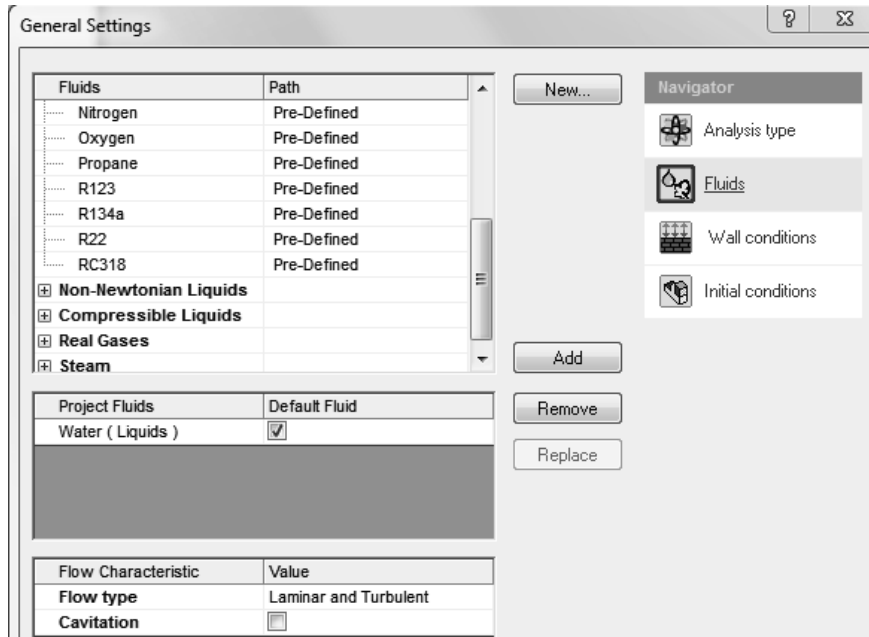

Figure 2.27d) Selection of fluid and flow type
29. In the next step, we will clone the project. Select **Tools>>Flow Simulation>>Project>>Clone Project...** Enter the Project Name “**Flat Plate Boundary Layer Study Using Water**”. Select **Create New Configuration** and exit the **Clone Project** window. Next, change the fluid to water in order to get higher Reynolds numbers. Start by selecting **Tools>>Flow Simulation>>General Settings...** from the SOLIDWORKS menu. Click on **Fluids** in the **Navigator** portion, select **Air** and click on the **Remove** button. Select **Water** from the **Liquids** and **Add** it as the **Project Fluid**. Change the **Flow type** to **Laminar and Turbulent**; see figure 2.27d). Click on the **OK** button to close the **General Settings** window.